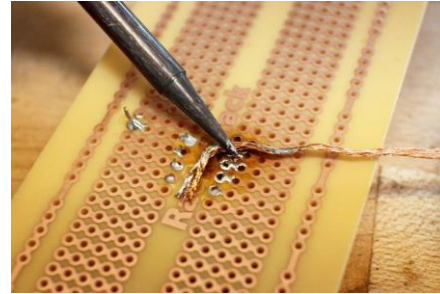

Figure 2
- While using Desoldering wick, keep the wick over the pad and put solder iron over it as shown in figure 2.